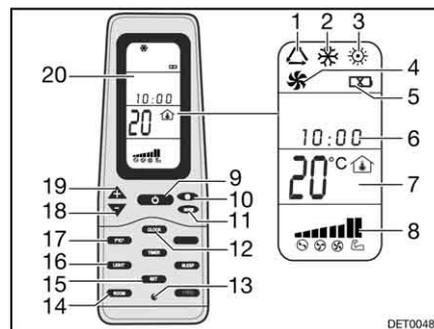

Fig. 202 Remote control
- Press the ON/OFF button (Fig. 202,9).
- Press the "Mode" button (Fig. 202,11) as often as required until the required mode (Fig. 202,1, 2, 3 or 4) is indicated on the display (Fig. 202,20).
- Use the "+" (Fig. 202,19) and "-" (Fig. 202,18) buttons to set the desired temperature.
- Use the fan speed button (Fig. 202,10) to select the desired fan level.